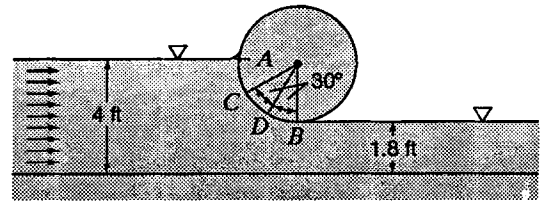

Figure X6.4.1
6.4.1 A cylindrical drum of radius 2.2 ft is securely held in position in an open channel of rectangular section. The channel is 10 ft wide, and the flow rate is 200 cfs. Water flows beneath the drum as shown in Fig. X6.4.1. Determine the horizontal thrust on the cylinder using the momentum principle. Neglect fluid friction.